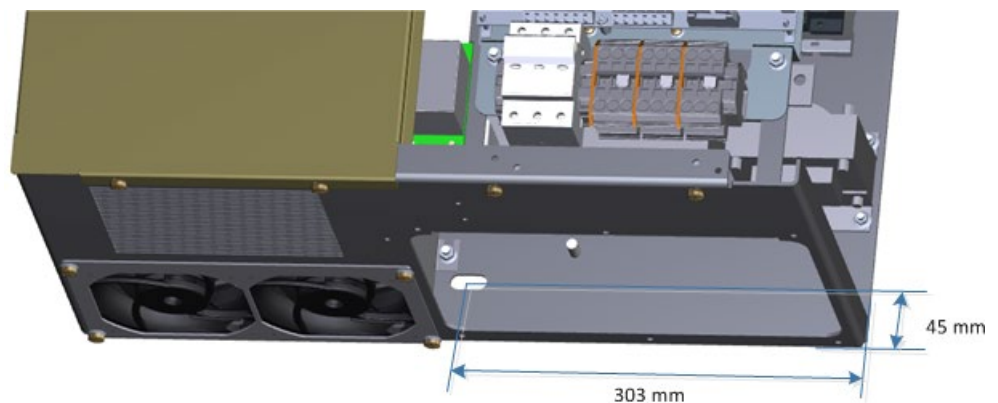

Figure 22: Lower end fixation
- By means of a lower end fixation screw (not provided) the enclosure can be pushed against the rear support at the bottom also (see Figure 22).